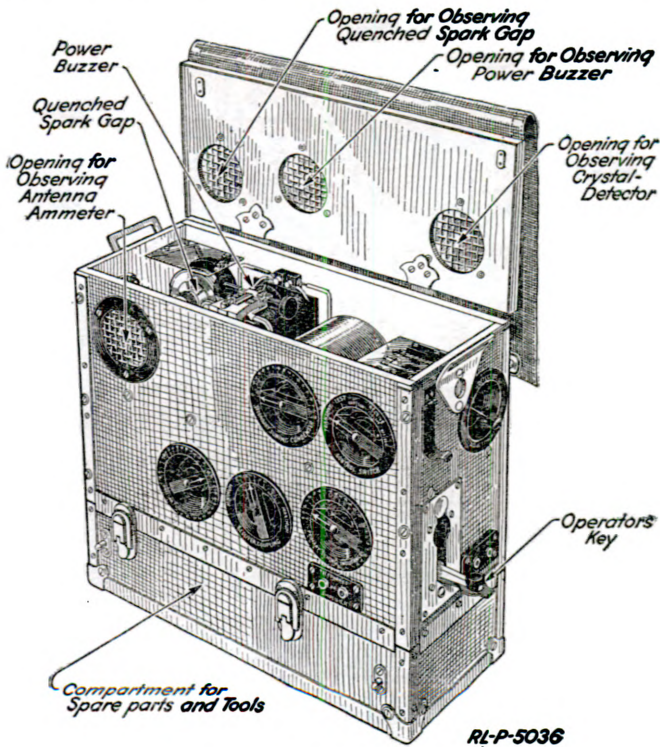
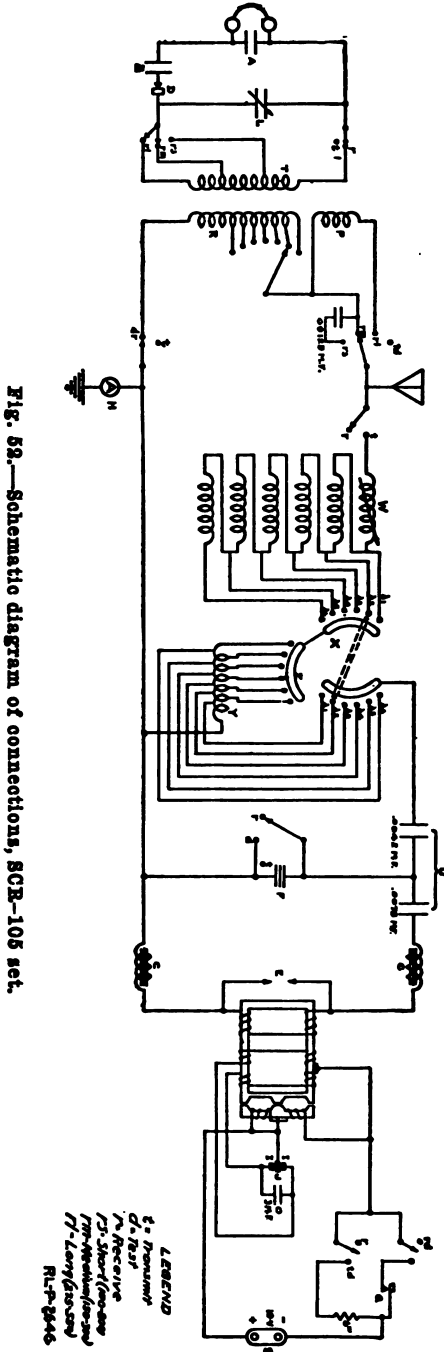

Fig. 49.—Set box, type BC-53-A.
Fig. 52.—Schematic diagram of connections, SCR-105 set.
The SCR-105 (see Fig. 49) is a compact transmitting and receiving quenched spark radio set. It is designed to be used in communication over a distance of 5 miles. The set is intended for intermit-
3. Observe the various parts in Figs. 49, 50, 51, and the wiring diagram in Fig. 52. Answer the following questions:
6. From observations made and a careful study of the diagram shown in Fig. 52 answer the questions below.
- (32) *How is the crystal detector adjusted?*
- (33) *How is a new crystal put in?*
- (34) *How is the long wave coil of the receiving circuit wound and where is it located?*
- (35) *From the diagram of connections (Fig. 52) when is the long-wave coil in the circuit?*
- (36) *Where is the short-wave condenser?*
- (37) *When is the short-wave condenser in the circuit?*
- (38) *Would the coils of the set be damaged if the battery was plugged in the wrong place?*
- (39) *Is it possible to put the battery lead plug in the telephone or amplifier jack?*
- (40) *How would you connect other telephone receivers if it were necessary?*
- (41) *How is connection made with the movable plates of the secondary condenser?*